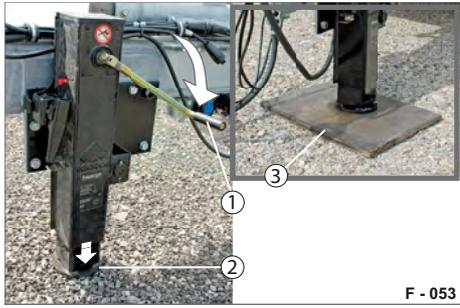
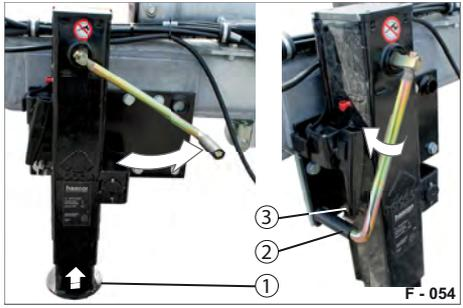

Fig. 78 Swivel support/support position
Fig. 79 Support foot retracted
- ▶ Use the crank handle (Fig. 78/1) to crank the support foot (Fig. 78/2) all the way to the ground.
- ▶ Compensate for uneven ground, if applicable, so that the trailer is in a horizontal position. If necessary, use a stable underlay (Fig. 78/3).
- ▶ Use the crank handle (Fig. 79/2) to crank the support foot (Fig. 79/1), - not until the trailer has been coupled - all the way up.
- ▶ Press against the compression spring (Fig. 78/3) and rotate the crank handle so the grip faces the retaining plate (Fig. 79/3). The crank handle is secured.